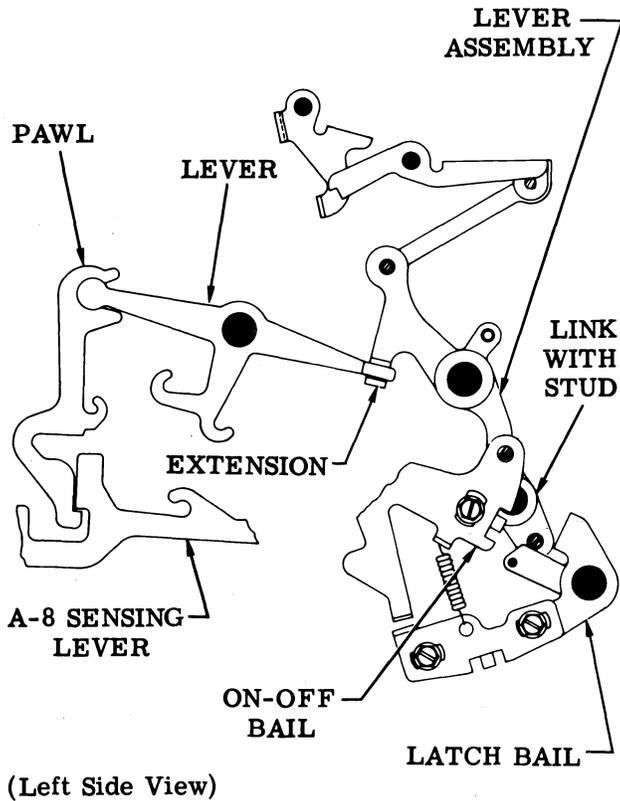

Figure 13 - Automatic ON Mechanism
- 5.11 Automatic ON (Figure 13) – For turning the tape punch on automatically the same mechanism that turns it on manually is used. When the CTRL and R keytops on the keyboard are depressed, a code combination is set up in the typing unit codebars and codebar extensions. The A-8 sensing lever senses the codebar extensions and travels upward, positioning a pawl and lever. In its pivoting motion the lever engages an extension of the lever assembly causing it to pivot as described in 5.07. The pivoting action of the lever assembly causes the link with stud to pivot. Subsequently, the latch bail moves downward disengaging the on-off bail whose stud moves away from the feed pawl. The feed pawl then reaches up to engage a tooth on the feed wheel ratchet.